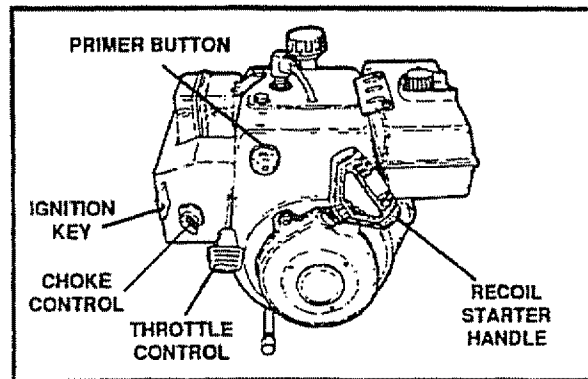

FIG. 10
- To stop the engine, push the throttle control lever to off and pull out the ignition key (See Fig. 10).